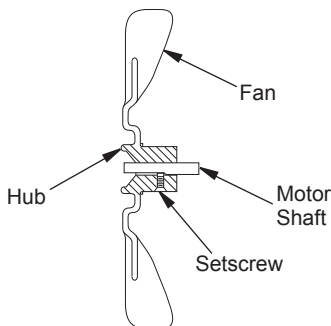

Figure 9 - Fan Cross Section
15. Replace fan on motor shaft. Make sure setscrew is touching back of flat surface on motor shaft (see Figure 9).